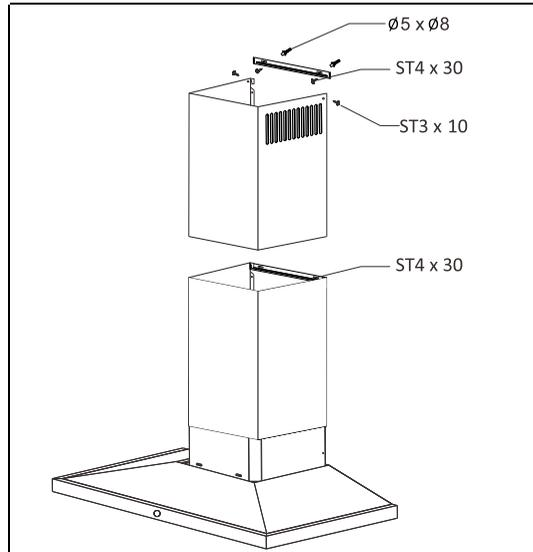

Fig. 9
- Fix the inner duct to mounting bracket using 2 (two) ST3 x 10 screws provided (Fig. 9).